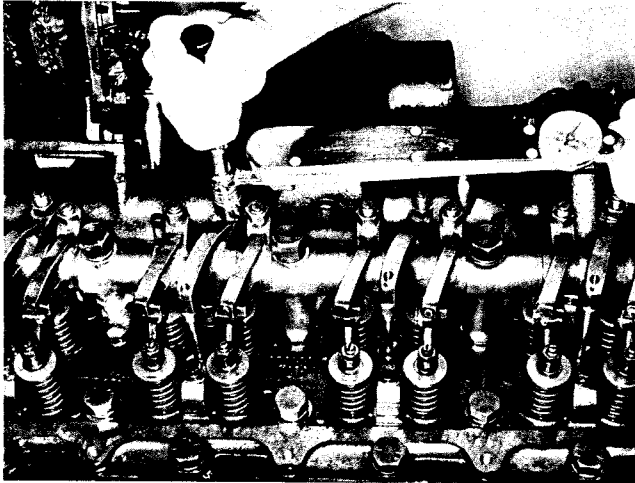

Fig. 2-54, (V51489). Tightening injector adjusting screw locknut
3. Hold injector adjusting screw and tighten injector locknut to values indicated in Table 2-6. When ST-669 Adapter is used, nut torque is reduced to compensate for additional torque arm length. Fig. 2-54.